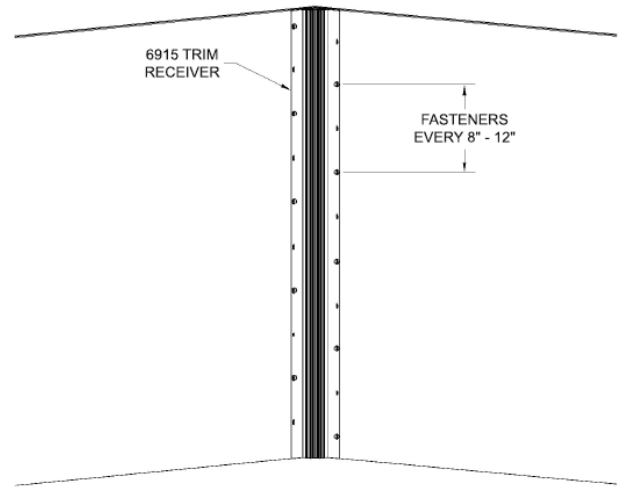

Fig. 2
4. Place the trim receiver against the block and on the wall. Fasten every 8" to 12" along the nail hem making sure the receiver is securely fastened using galvanized, stainless, or corrosion resistant nails or screws (Fig. 2).